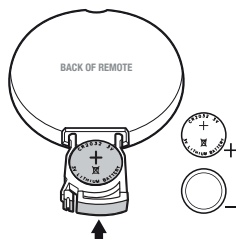

Fig. 8
5. Reinsert the battery compartment into the remote control ensuring that the + symbol is facing upwards when inserted. Make sure the battery compartment is correctly secured (Fig 8).